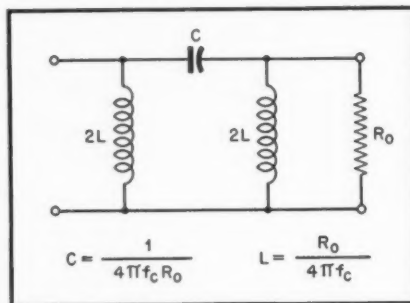

Fig. 3. High-pass filter prototype, or constant- k section.
lar to the high-pass prototype equations shown in Fig. 3. Dividing both sides of equations (10) and (11) by two yields